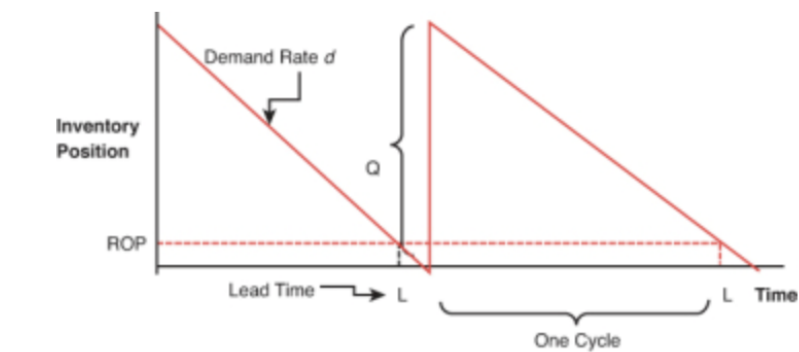

Figure 1-5 Fixed-order quantity systemt
A graphical presentation of this model is shown in Figure 1-5. Notice that the system assumes a constant demand rate of d by which the inventory position (IP) is reduced. When the IP reaches the ROP , an order is placed for the quantity Q . When goods arrive, the inventory is replenished, and all at once the inventory position is increased by Q . However, inventory cannot arrive the moment an order is placed as there is a certain amount of lead time, L , during which we have to wait for the order.